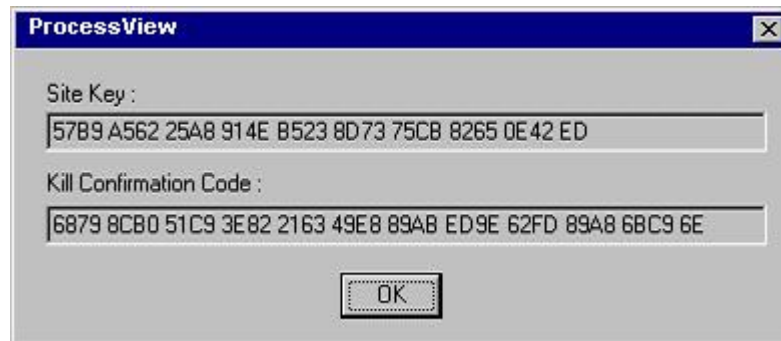

Figure 3.28. Site Key with Kill Confirmation Code
27. A dialog box containing the **Kill Confirmation Code** will appear, as shown in **Figure 3.28**. Click **OK**.